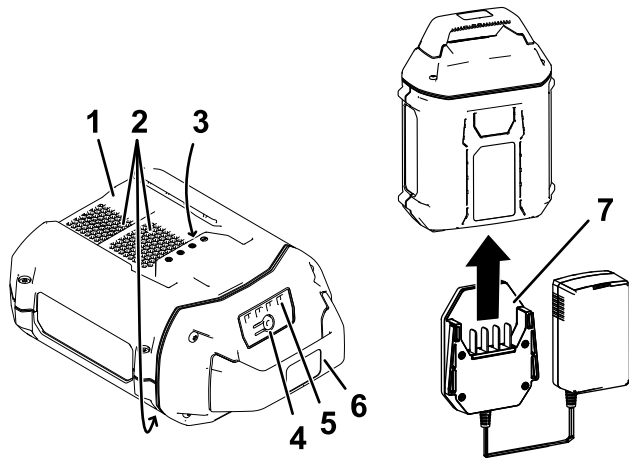

Figure 10
2. Line up the charger with the cavity on the back of the battery pack (Figure 10).
3. Slide the charger into the battery pack until it is fully seated (Figure 10).